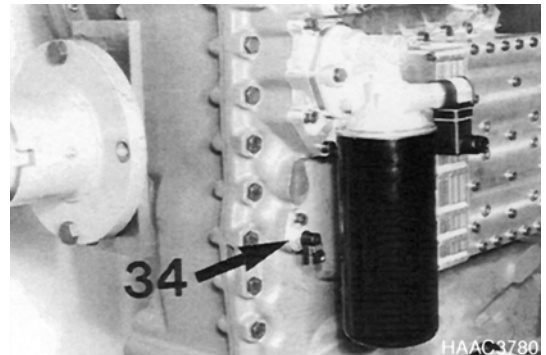

Figure 285
1. Grease O-ring, install speed sensor (Figure 285) and fasten it using socket head screw.